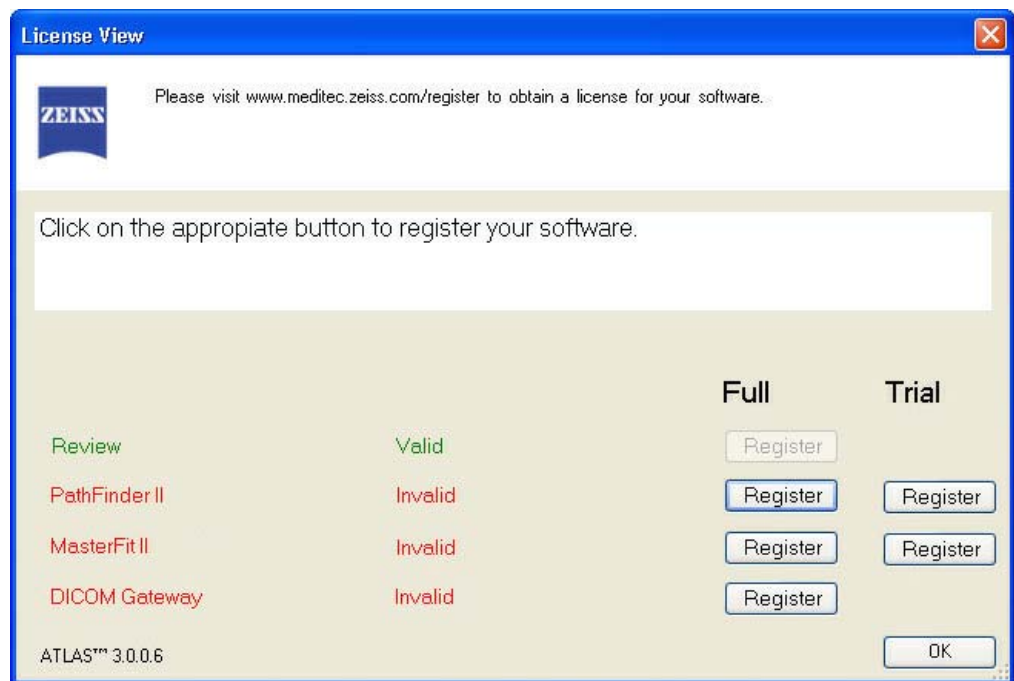

Figure 21 License View Window with Full Review License Registered
- 13.The LICENSE VIEW window (Figure 21) is displayed with the Full license registered. Select **OK** to begin using the software.